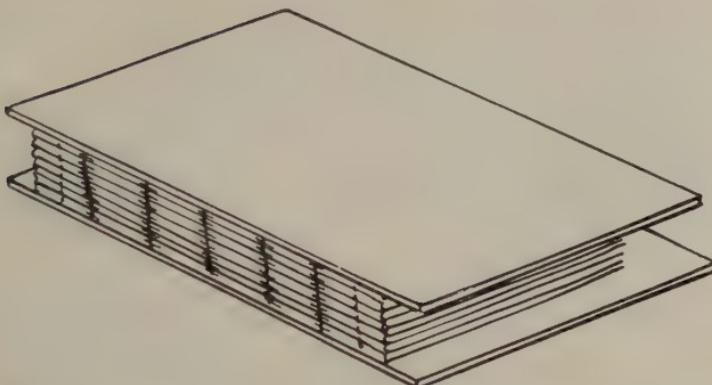

FIG. 199—TRIMMED BOOK JOGGED, WITH CARDBOARD PROTECTORS
2. Cut a pair of stiff boards slightly larger than the trimmed book and place one on either side with one long edge of boards flush with back edge of book. (Fig. 199.)